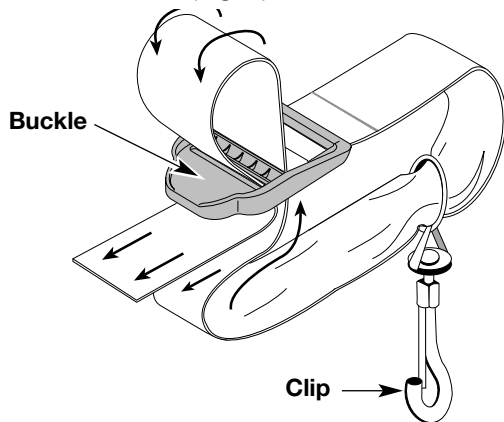

Fig. 1
2. Pull the strap over the cross bar and down through the slot in the buckle (Fig. 1).